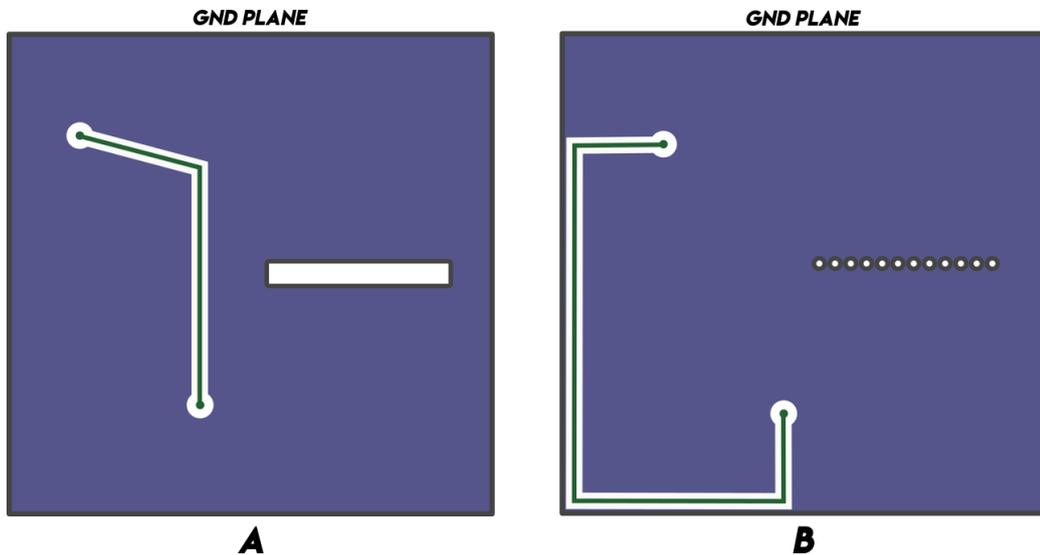

Figure 5: (A) A GND layer design not suitable for EMC, (B) Design of a GND layer in accordance with EMC rules.
- 5- The GND layer should not be strictly divided. Otherwise, the potential difference will occur from the EMI and/or fluctuations in the area on the PCB. This will result in noise, loss of sensitivity and shortening of product life. In applications where the supply voltage is met from a different PCB, if the distance is far, we can use two of the flat cables as GND instead of one to reduce conduction losses. This may vary from application to application. However, the truth is, in PCB designs, the return routes (GND) should never be broken up. (Figure 5)